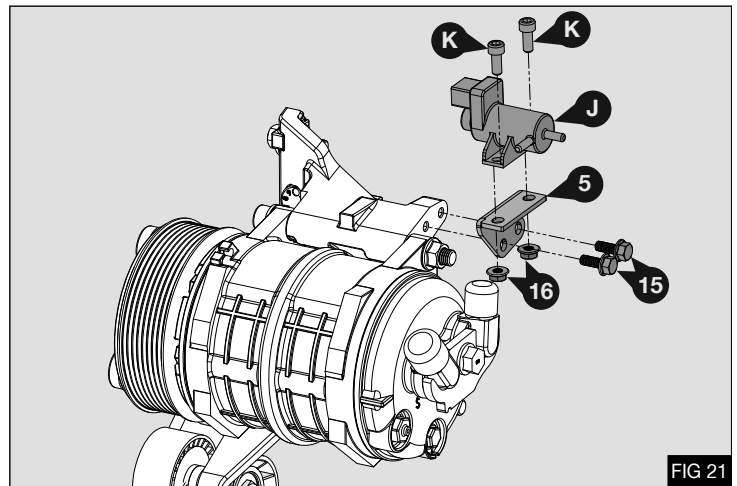

FIG 21
1. Fit vacuum solenoid bracket (5) to mount bracket (1) using M6 x 16 flange bolts (15). Secure vacuum solenoid (J) to bracket (5) using original cap head screws (K) with nuts (16). Re-connect wiring harness to solenoid - Fig 21
2. Torque bolts (15) and (K) to 10 Nm / 7.5Lbft